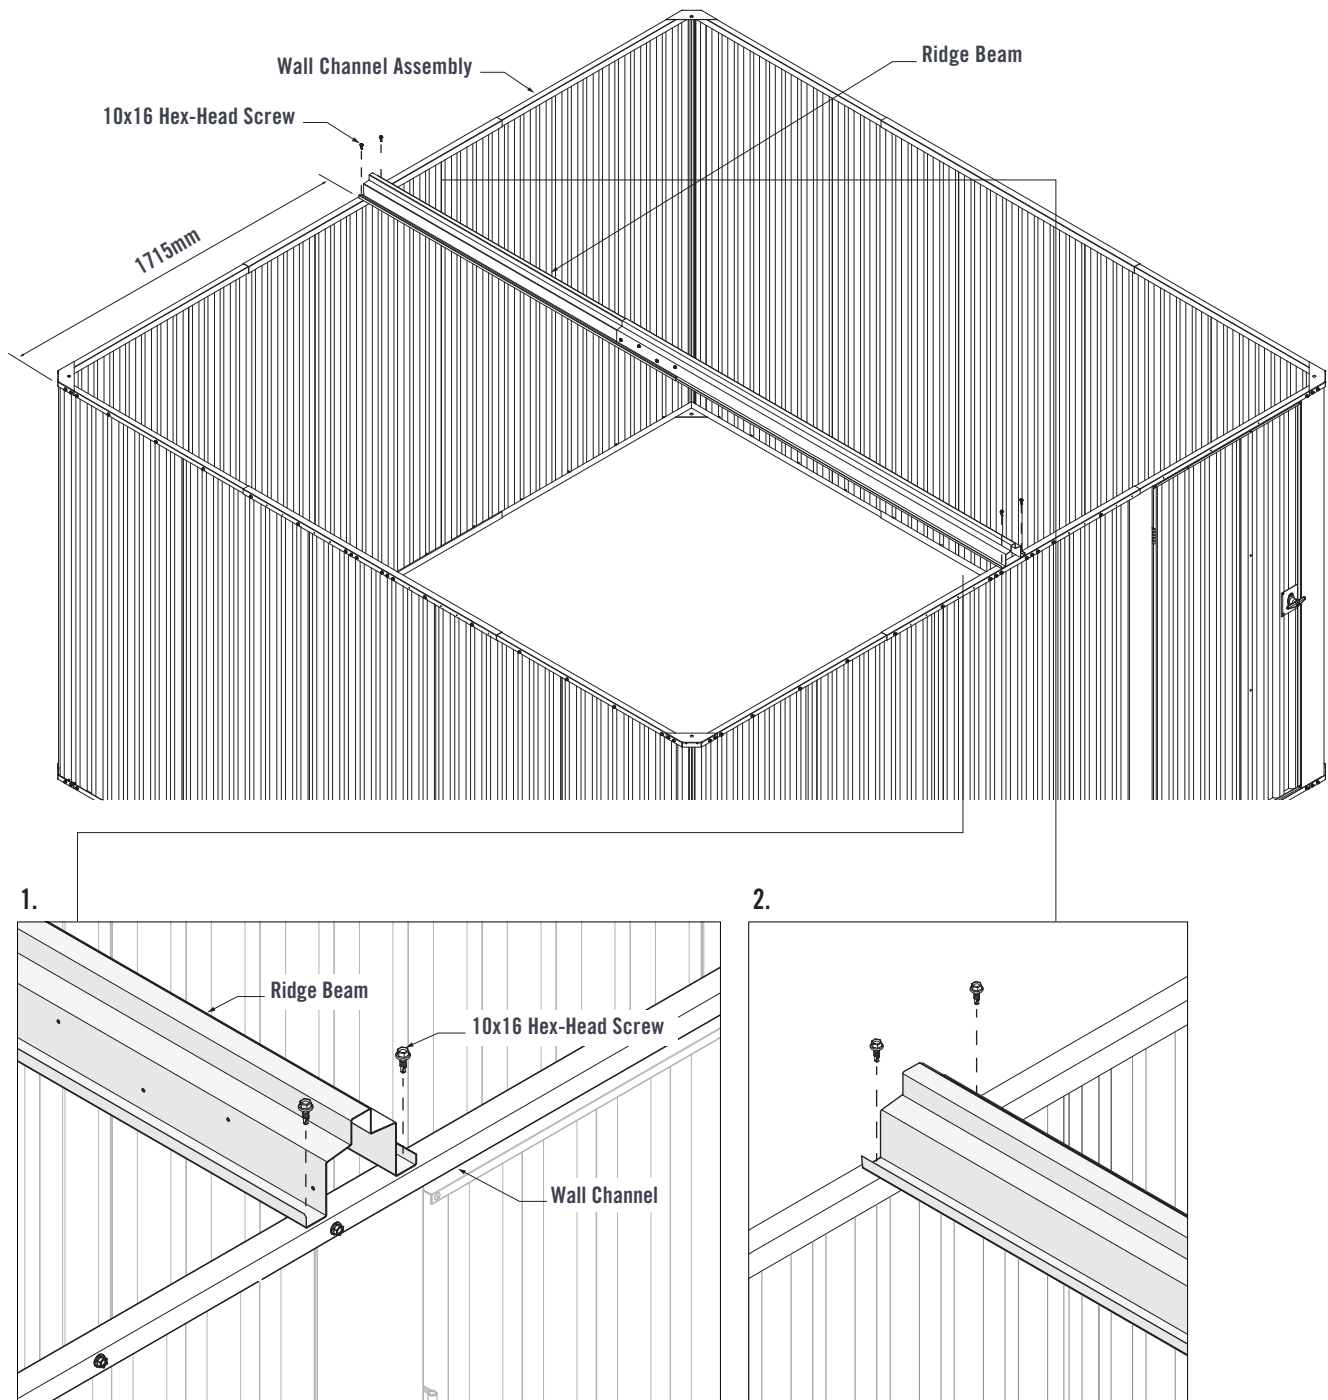

FIGURE 6.3
Fit the Ridge Beam onto the top Wall Channel Assemblies. Ensure 1715mm spacing between the edge of the shed and edge of the Ridge Beam (Figure 6.3).
1. Align the end of the Ridge Beam with the outer edge of the Wall Channel. Fasten two 10x16 Hex-Head Screws through the pilot holes in the Ridge Beam and into the Wall Channel (Figure 6.3).
2. Fasten two 10x16 Hex-Head Screws through the pilot holes in the Ridge Beam and into the rear Wall Channel (Figure 6.3).